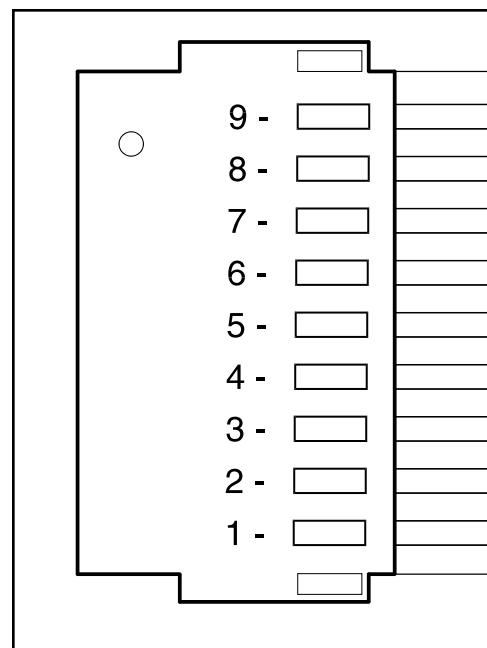

FIGURE F.9 - Plug J2 Test Points.
- a. The resistance measurements are taken from the pin locations on Plug J2. See Figure F.9 for each pin location.